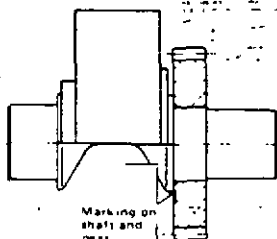

Fig. 3
4. The D 302-1 counterweight has a "V" shaped notch which must align with the scribe mark on the face of the gear. (See Figure 3.)